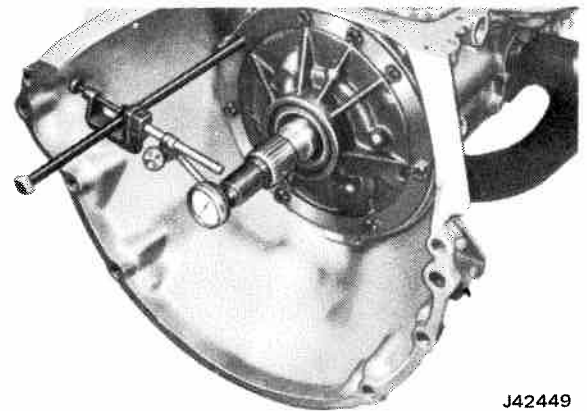

Fig. 7-19 Front Unit End Play
- (1) Remove one front pump attaching bolt and washer from either 5 or 10 o'clock position.
- (2) Install a $\frac{3}{8}$ inch - 16 threaded slide hammer bolt, into bolt hole.
- (3) Mount a dial indicator on rod, then index indicator to register with end of turbine shaft, as shown in fig. 7-19.
- (4) Push turbine shaft rearward.
- (5) Push output shaft forward.
- (6) Set dial indicator to zero.
- (7) Pull turbine shaft forward.
- (8) Read resulting travel, or end play, which should be 0.003 to 0.024 inch.